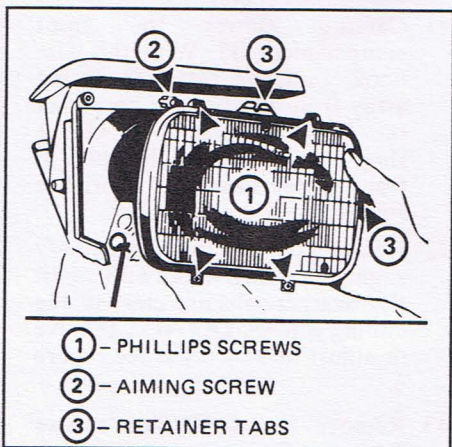

Figure 6 - Removing headlight
12. Rotate the headlight assembly slightly counter-clockwise until the retainer tabs are clear of the aiming screws. DO NOT remove or adjust these screws. See Figure 6.
13. Remove the 4 Phillips screws from the 2-piece retainer which surrounds the headlight. See Figure 6. Separate the 2-piece retainer and remove the headlight.